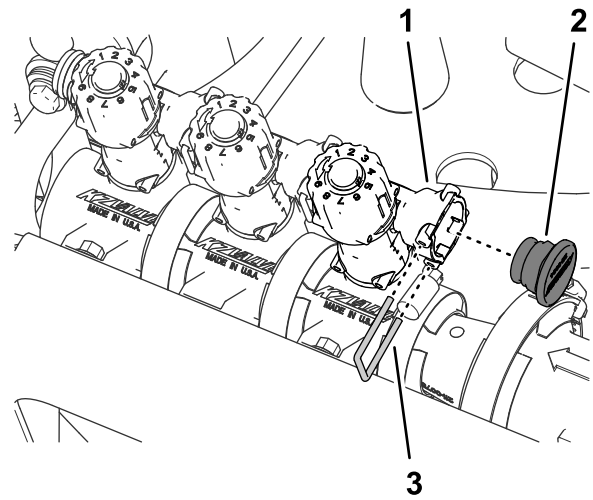

Figure 67
8. Assemble plug into the quick connect socket of the bypass valve (Figure 67).
9. Secure the plug to the quick connect socket with the retainer that you removed in step 3 (Figure 67).